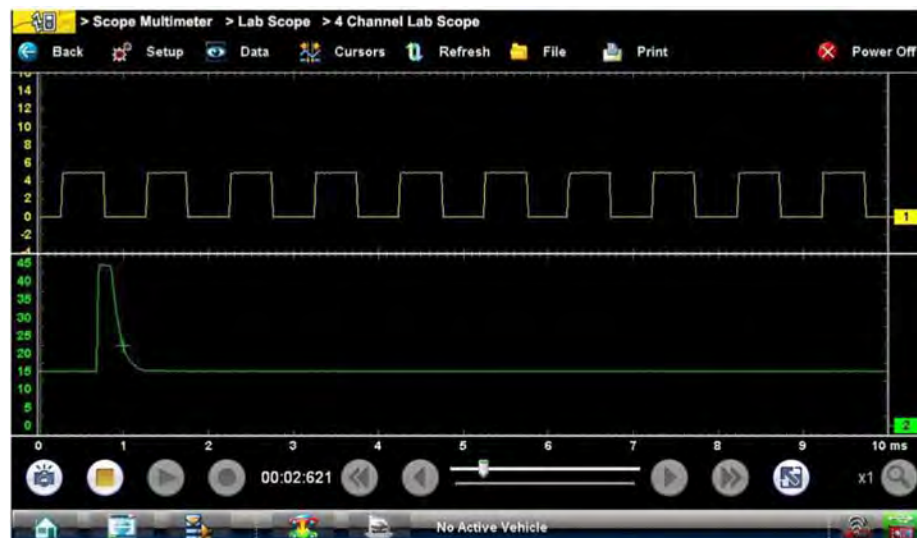
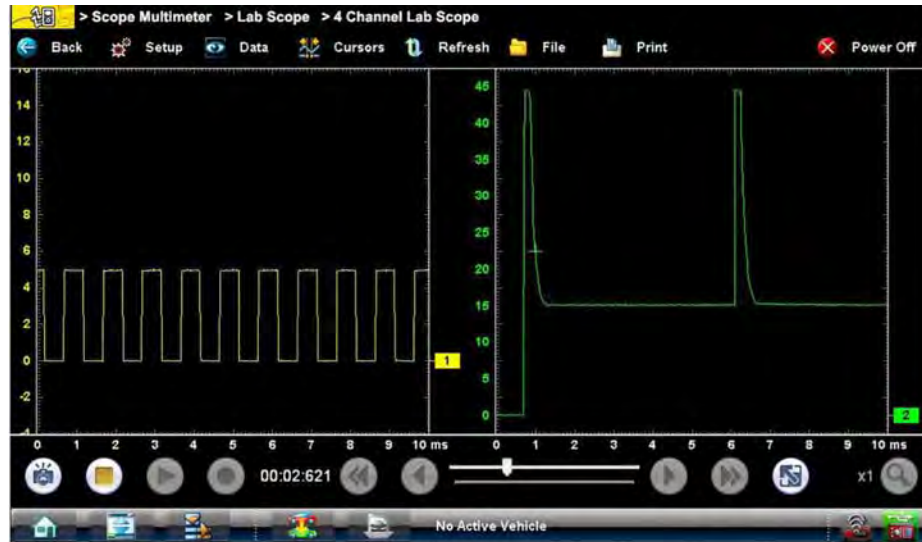

Figure 8-23 Sample 2 Windows horizontal display
Figure 8-24 Sample 2 Windows vertical display
- **2 windows**—shows two separate traces in two ways: horizontal, one below another (Figure 8-23) or vertical, side-by-side (Figure 8-24).